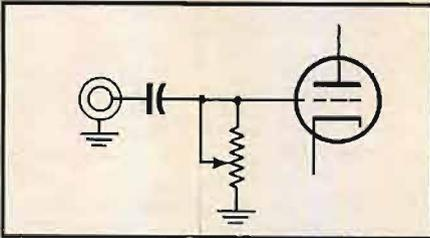

Fig. 1
*Q. My power amplifier is behaving in a most peculiar manner. When the volume control is turned up full, the bass response is normal, but as the setting of the control is reduced, the bass falls off sharply. This is not a result of the Fletcher-Munson effect, for, as I advance the gain of pre-amplifier at the same time that I decrease that of the power amplifier, the bass still continues to fall off. Enclosed is a schematic of the input circuit of the power amplifier, (Fig. 1), perhaps it will help*